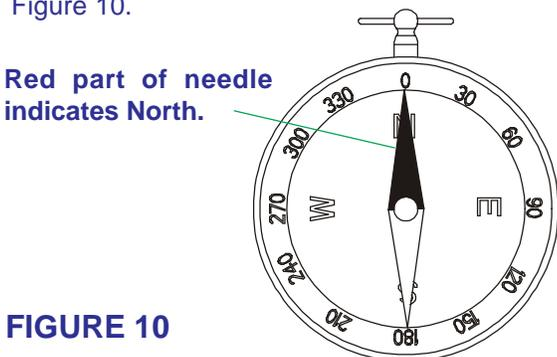

FIGURE 10
STEP 9. Using the compass provided, determine which direction (azimuth) you need to aim antenna. See Figure 10.